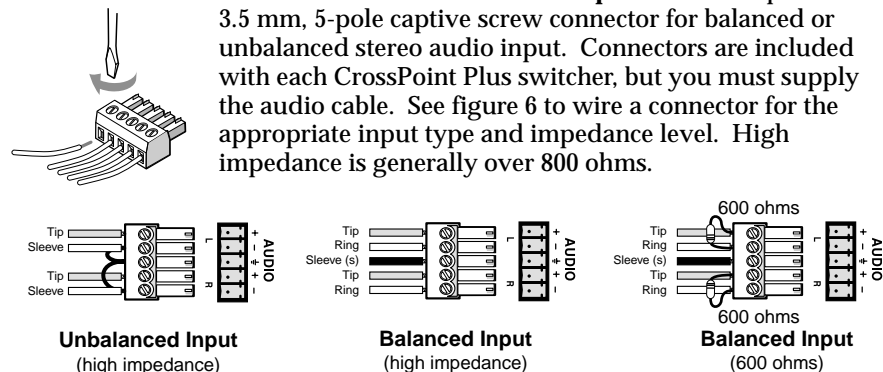
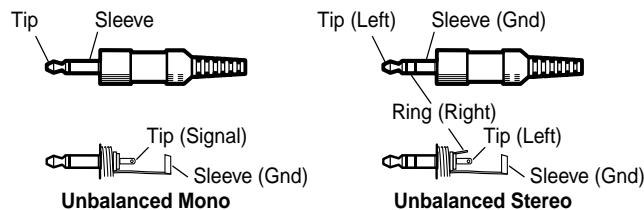

Figure 6 — Captive screw connector wiring for inputs
Figure 7 — Phono audio connectors
- ④ **Connections for balanced and unbalanced audio inputs** — Each input has a 3.5 mm, 5-pole captive screw connector for balanced or unbalanced stereo audio input. Connectors are included with each CrossPoint Plus switcher, but you must supply the audio cable. See figure 6 to wire a connector for the appropriate input type and impedance level. High impedance is generally over 800 ohms.
NOTE When making connections for the CrossPoint Plus Series Switcher from existing audio cables, see figure 7. A mono audio connector consists of the tip and sleeve. A stereo audio connector consists of the tip, ring and sleeve. The ring, tip, and sleeve wires are also shown on the captive screw audio connector diagrams, figure 6 and figure 8.